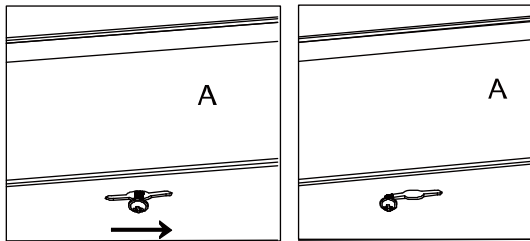

Figure 11
4. Hide cables with wire nuts in the junction box. Guide the heads of the four wood screws into the keyhole slots and slide the luminaire housing (A) in the direction such that the wood screw heads rest over the narrow part of the keyhole slot. Ensure that the fixture is supported and tighten the four wood screws until the fixture is secured to the mounting surface. (Figure 11)